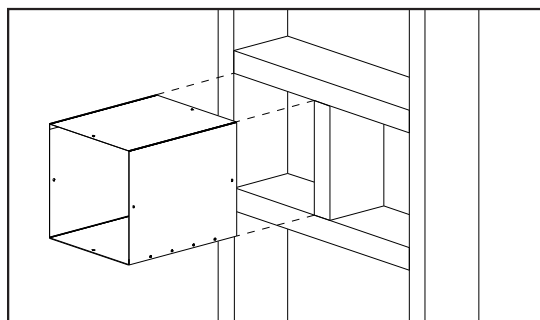

Figure 30. Wall/Ceiling Thimble provided.
A two (2) piece wall/ceiling thimble is included with the stove (see Figure 30). Venting terminals can not be recessed into a wall or siding.